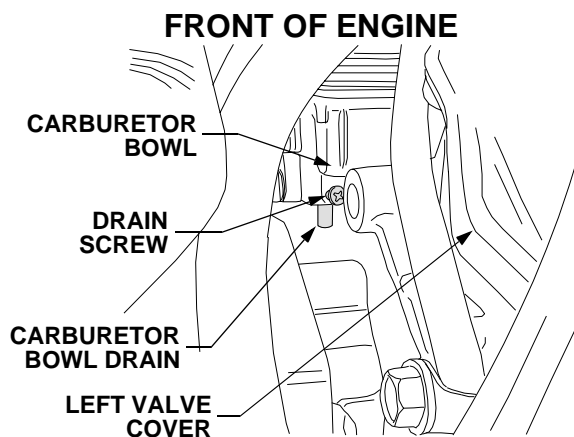

Figure 52
- Place a small container or rag beneath the carburetor bowl drain and loosen the drain screw to completely drain the fuel from the carburetor. See Figure 52.